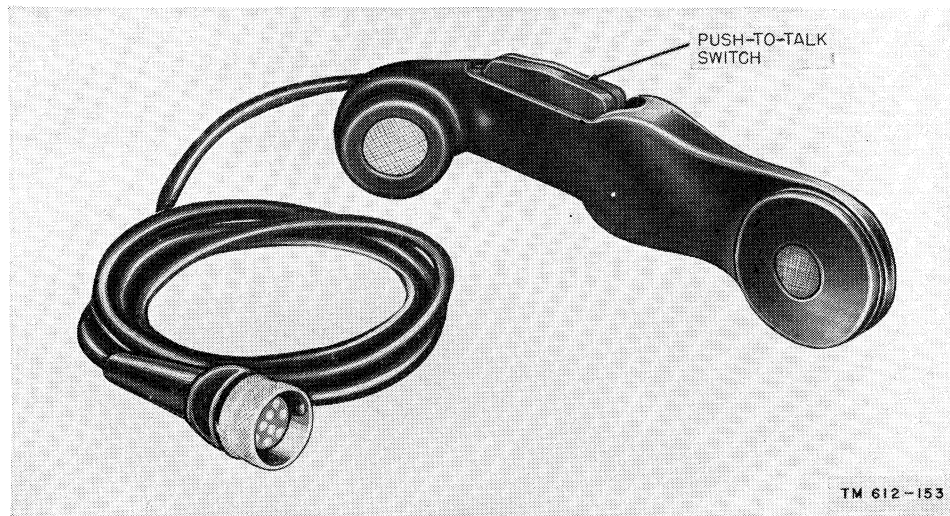

Figure 7. Handset H-33(*)/PT.
e. *Handset H-33(*)/PT*. The Handset (fig. 7) consists of a microphone for transmitting, an earphone for receiving signals, and a push-to-talk switch. The handset is connected through a cable and 10-contact plug to an AUDIO connector on the control panel of the radio set.